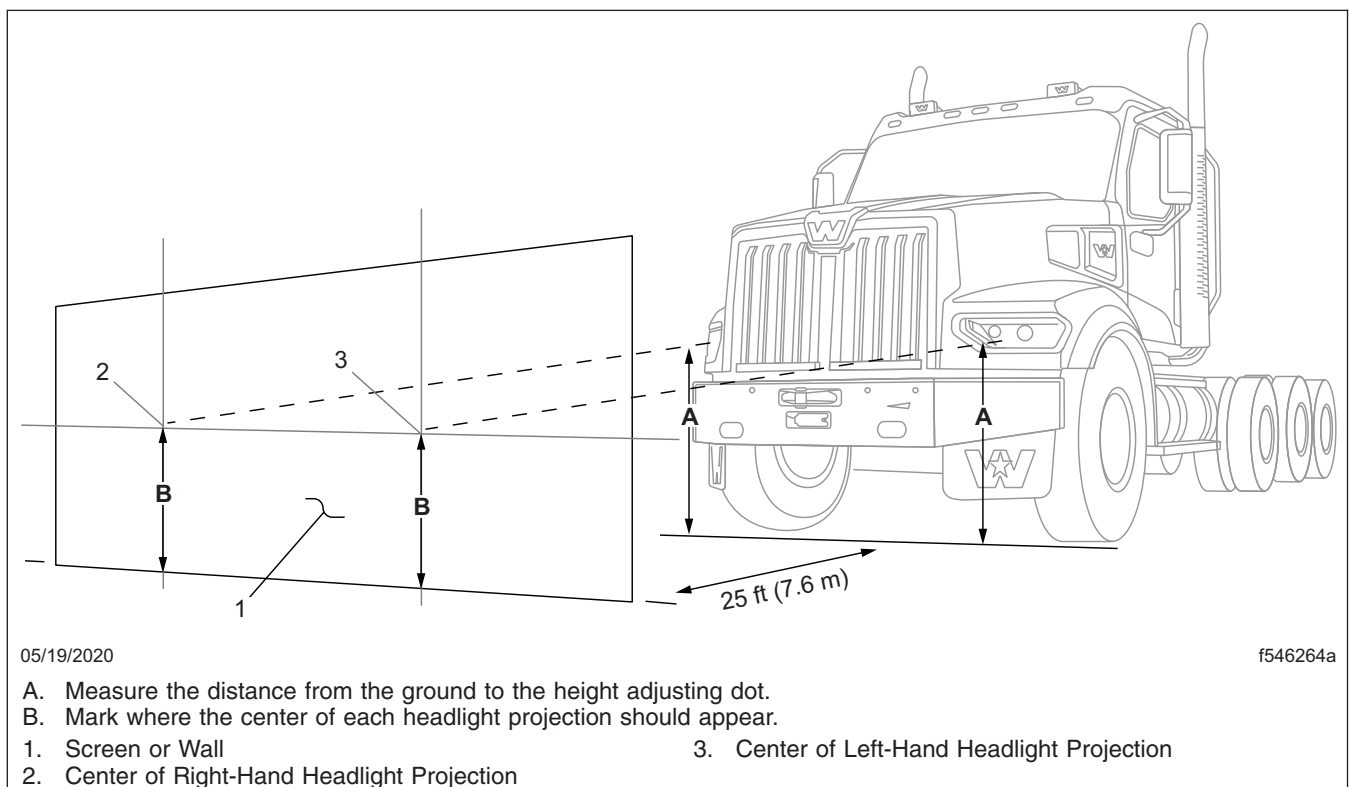

Fig. 20.2, Headlight Aiming Screen/Wall
3. On the screen or wall, mark the locations of each headlight bulb center using the measurements made in step 2. See Fig. 20.2, Items 2 and 3.